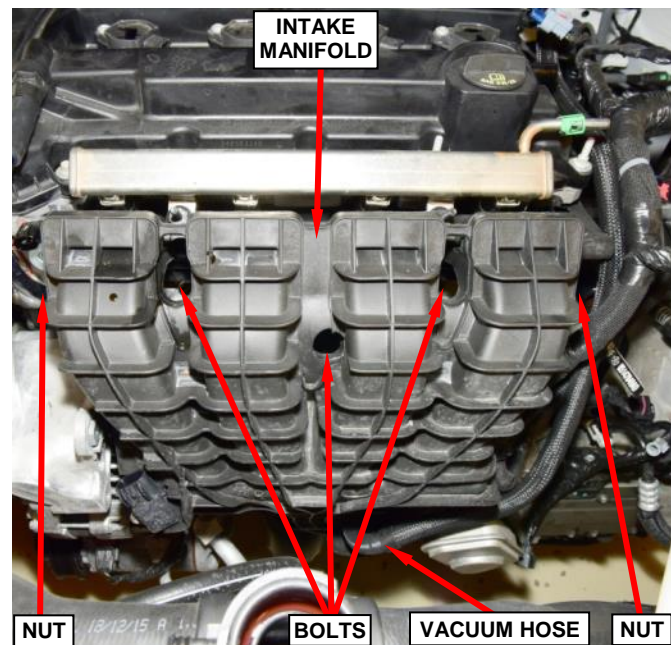

Figure 83 – Intake Manifold
55. Remove and save the intake manifold fasteners, three bolts and two nuts (Figure 83).
56. Remove and save the intake manifold and fuel rail assembly (Figure 83).